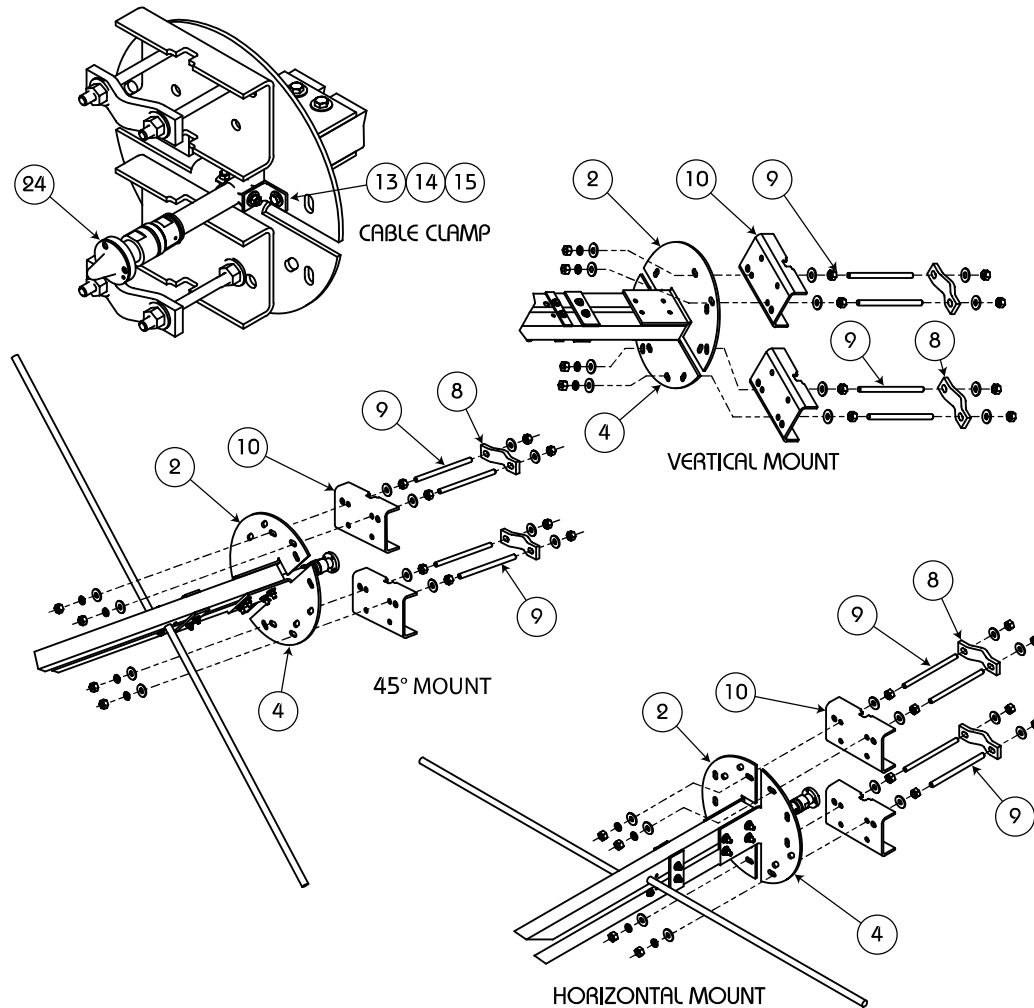

Figure 3. Attach the cable clamp and antenna mounts [step c(3) - (5)]
- Using the 1/4-20 hardware (14), attach the cable clamp clip (13) to the top mount plate half. Using the coax clamp (15), secure the cable section extending from the boom to the cable clamp clip, as shown in Figure 3.
- Using the 1/2" threaded rods (9), attach the mount channels (10) to the mounting plates, with the an-
tenna arms in either the vertical, horizontal, or an angled mounting position, as specified in your "Figure 2." Attach the clamp halves (8) loosely onto the threaded rods. Mount attachment is shown in Figure 3.